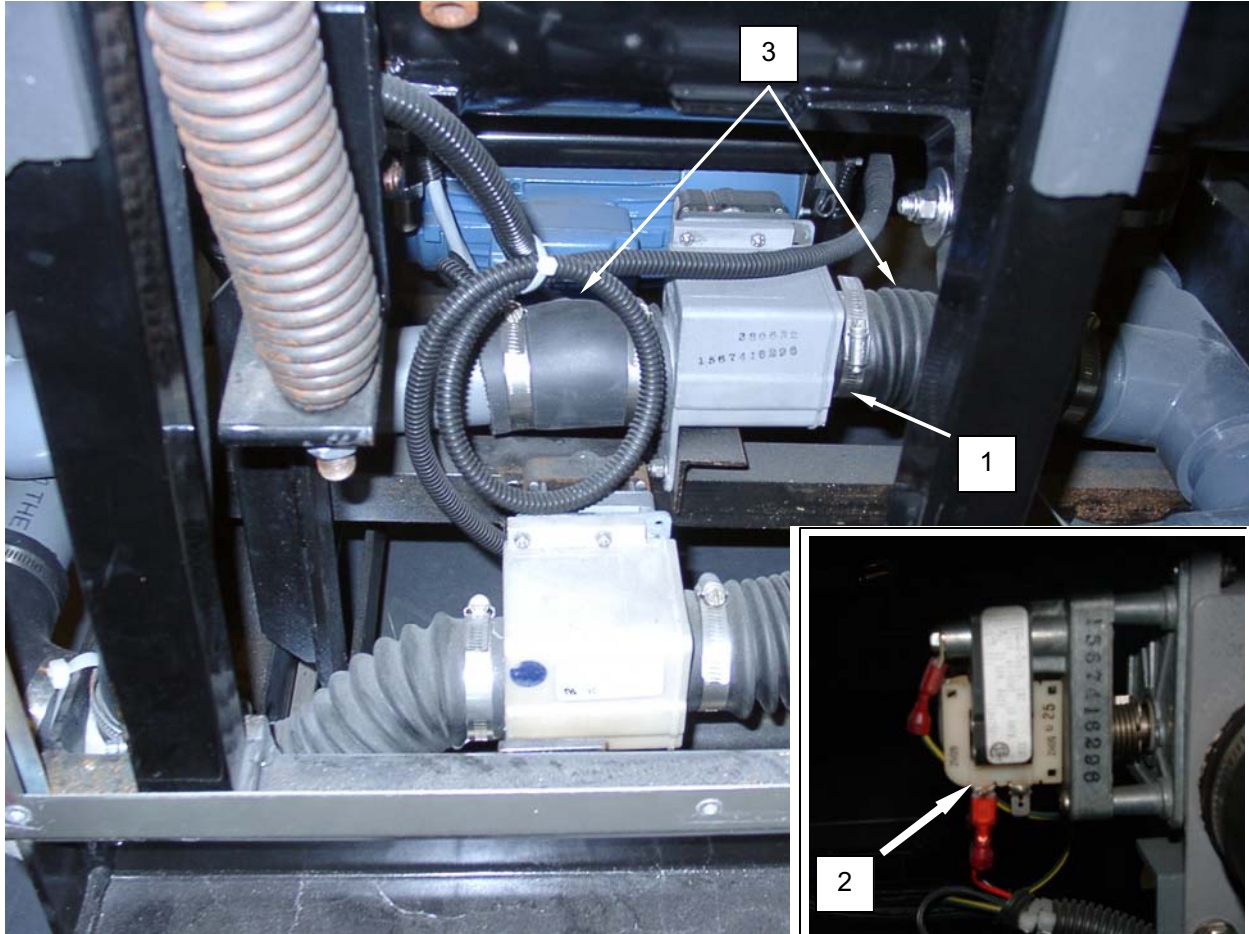

Figure 1. Test the Washer Reuse Drain Valve.
2. Tag and disconnect wiring from valve motor (**Figure 1, Item 1**).
3. Use an ohmmeter to check for 100 to 120 ohms resistance between motor leads (**Figure 1, Item 2**).
4. Use an ohmmeter to check for infinite resistance between each motor lead (**Figure 1, Item 2**) and ground.
5. Replace an open motor (**Figure 1, Item 1**) or a motor which has shorted to ground.
6. Loosen and remove the clamps retaining the hoses (**Figure 1, Item 3**) to the valve (**Figure 1, Item 1**) and remove the hoses.
7. Ensure the valve (**Figure 1, Item 1**) opens and closes completely and is free of obstructions.
9. Install hoses (**Figure 1, Item 3**) onto valve (**Figure 1, Item 1**) and retain with clamps.